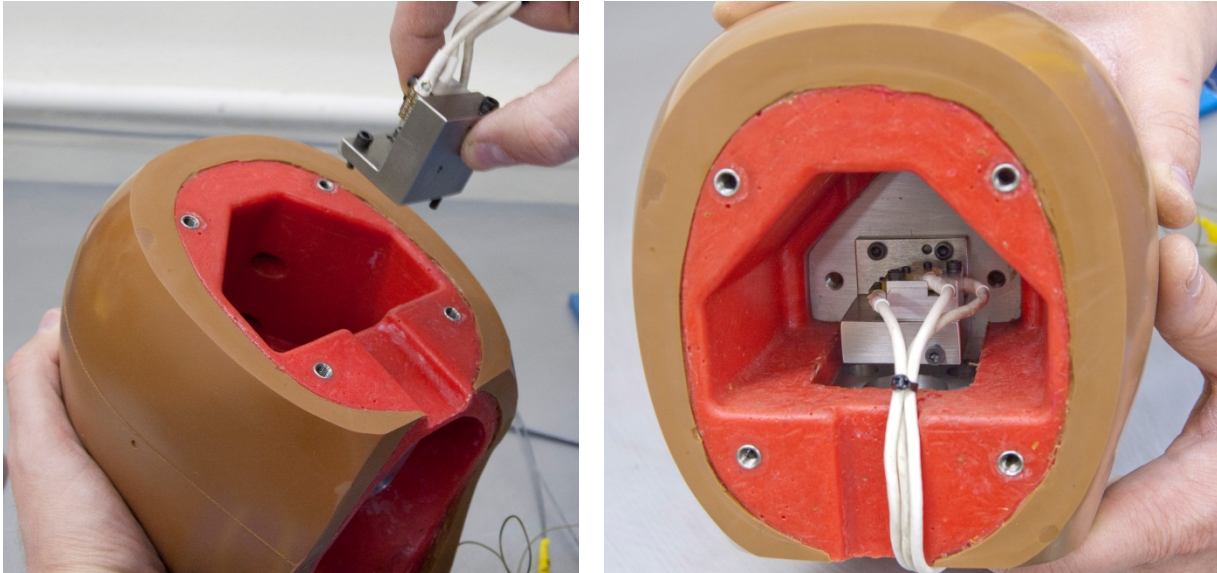

Figure 4. Install head accelerometer bracket into head
- Install the accelerometer bracket, assuring that the guide pin is placed properly into the head (Figure 4). Tighten the two M3 x 10 SHCS and one M3 x 40 SHCS that hold the bracket to the head.
- Feed the head accelerometer wiring out the recessed area in the head and replace the skullcap, taking care not to damage accelerometer wiring protruding from the head. Tighten the skull cap using four (4) M5 x 12 BHCS.